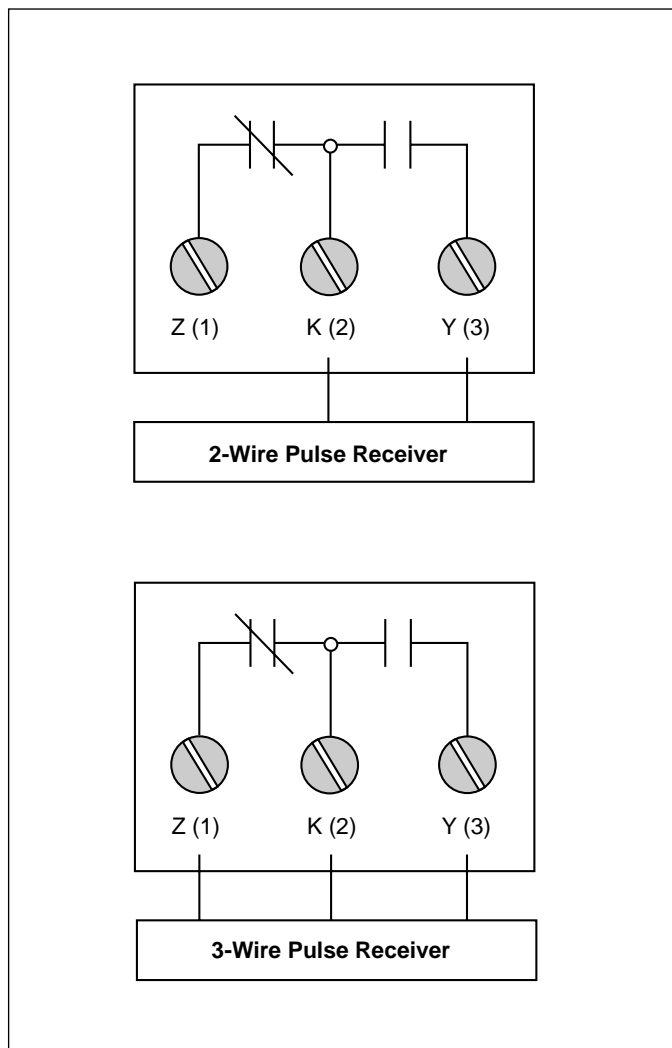

Figure 5-20 Pulse Output Connections
The KYZ type output can be wired to a 2-wire or 3-wire pulse receiver (Figure 5-20). Use terminal #3 (K) and terminal #2 (Y) to wire to a 2-wire pulse receiver. Use terminal #3 (K), terminal #2 (Y), and terminal #1 (Z) for a 3-wire pulse receiver.